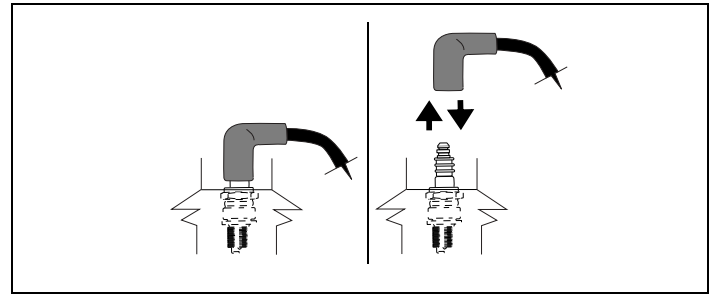

Figure 30. Disconnecting/Connecting Spark Plug
1. Carefully disconnect spark plug wire and keep it away from spark plug. See Figures 30 and 31. See "G. Avoid Accidental Starts" instructions on page 2. Afterward, continue reading instructions below.